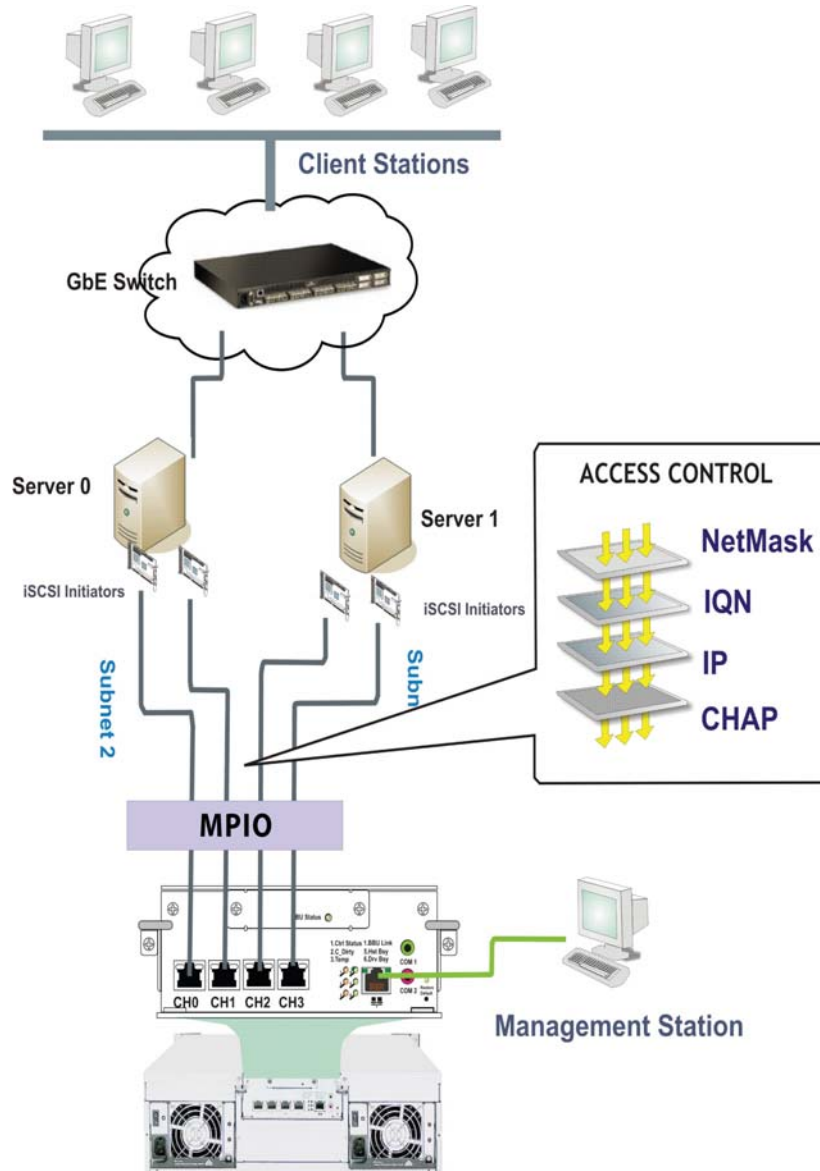

Figure 4-1: Sample Topology: Multiple Servers Each with Dual Connections
In the configuration shown in *Figure 4-1*, one (1) EMD SecurStor16i subsystem is connected to two (2) servers. These servers are equipped with iSCSI HBAs and using the subsystem as the shared storage. Multiple arrays or logical partitions can be created and made available separately through different ID/LUNs on the host ports.